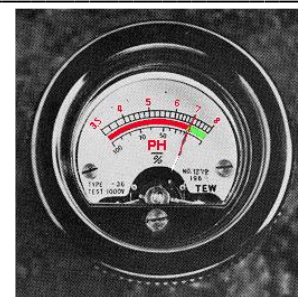

Fig.1
1. Take the instrument out of its case and check that the needle indicates pH 7 (fig.1). If this is not the case it can be very simple adjusted. Remove the cover and glass window from the instrument and carefully turn the adjusting screw clockwise or counter-clockwise, as the case may be.